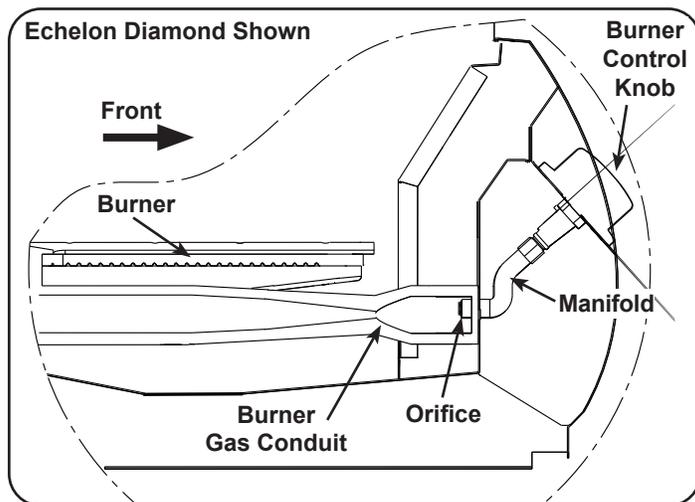

Fig. 3-3 Orifice location cut away side view
1. Use a $\frac{3}{8}$ " hex nut driver to remove the exposed gas orifice and replace it with the correct orifice for the new infrared burner included with your kit (See Table 1 for the correct orifice). Also reference Fig. 3-1, Fig. 3-2 and Fig. 3-3).